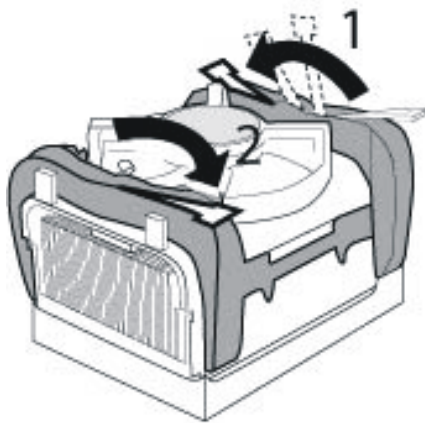
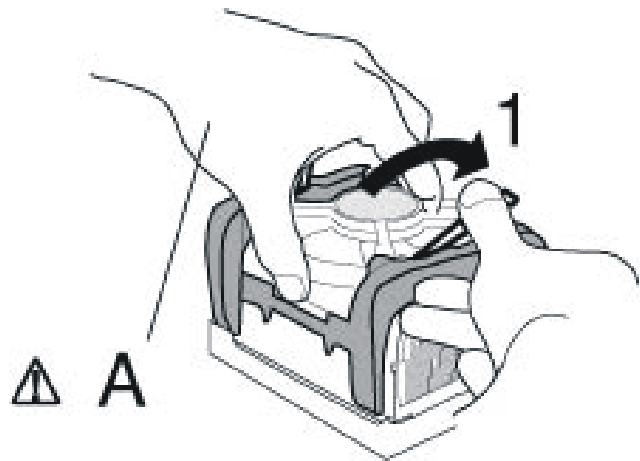

**Figure 3-6: Installing the Fan Heatsink (1)**
**Figure 3-8: Installing the Fan Heatsink (3)**
2. Align the fan heatsink and clip assembly (A in Figure 3-6) with the retention mechanism (the fan heatsink is symmetrical) and place it on the processor (as shown in Figure 3-7). Allow the heatsink base to compress (without rotating or twisting) the thermal interface material over the surface of the processor's integrated heat spreader.
3. With the clip levers (C in Figure 3-6) in the upward position, push down on all four clip frame corners (D in Figure 3-6) to secure the clip frame latches (E in Figure 3-6) to the retention mechanism hooks (F in Figure 3-6), as shown in Figure 3-8.
Note: Make sure the processor fan cable is free from any obstruction and is not trapped under clip frame (B in Figure 3-6).